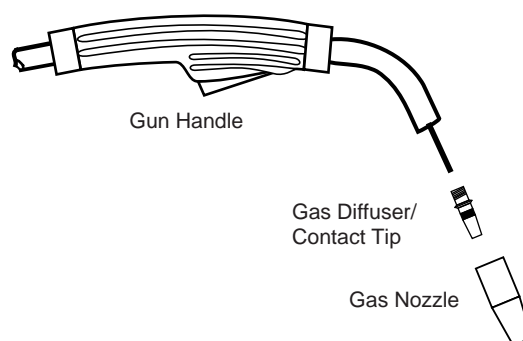

FIGURE B.5
7. Refer to Figure B.5. Remove gas nozzle and contact tip from end of gun.